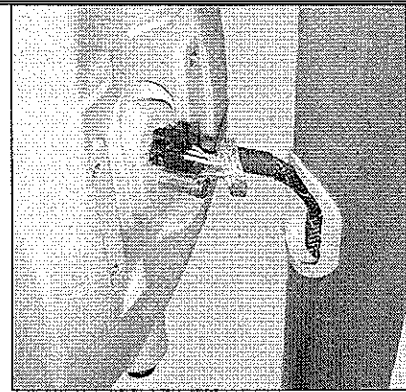

Figure 4-8b: EDA Connector
3. Disconnect the EDA pigtail cable from the back of the EDA module (see Figure 4-8b) then power the Injector back on. The Injector Controller should emit an audible tone.